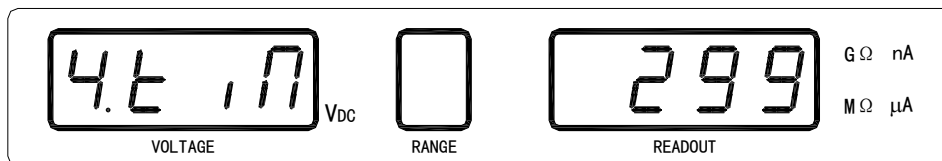

Figure 3-8 Charge Time Setup
- 2) Press **▲** or **▼** key to scroll through the main setup items, until "**4.tin**" is blinking in the voltage window as shown in the following figure 3-8.